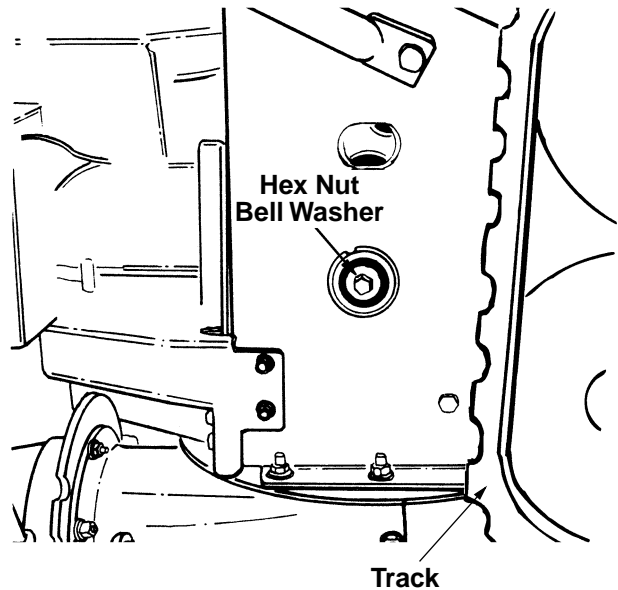

Figure 23
4. Using a 7/8" wrench to hold the shaft, loosen, but do not completely remove, the hex bolt and bell washer from the left end of the shaft. See figure 23.